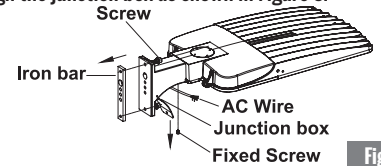

Figure 3
3. Remove screws with screwdriver. Set aside Iron Bar for future use. Remove the fixing screws to open the junction box cover. Pass the fixture's AC input wires through the junction box as shown in Figure 3.